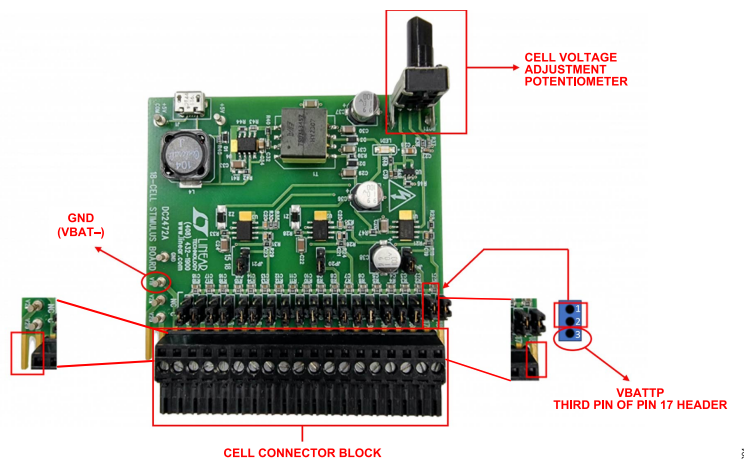

Figure 1. DC2472A Battery Cell Emulator
1. Screw the two cell connector blocks to the two DC2472A battery emulators. Note that the first two terminals and the last terminal of each DC2472A connector must be left hanging (see Figure 1).
3. Set the DC2472A battery emulators to the lowest voltage by fully turning the cell voltage adjustment potentiometer counter-clockwise (see Figure 1).